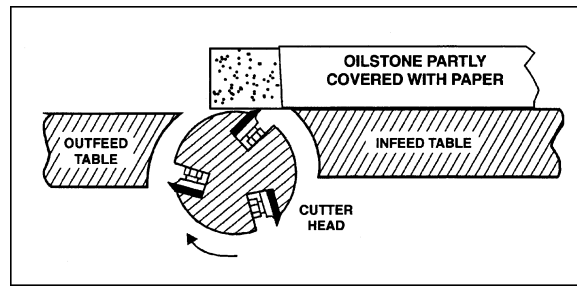

Figure 34
3. Use a fine carborundum stone. Cover it partly with paper, as shown in Figure 34, to avoid marking the table.